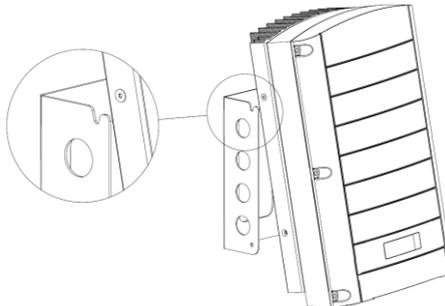
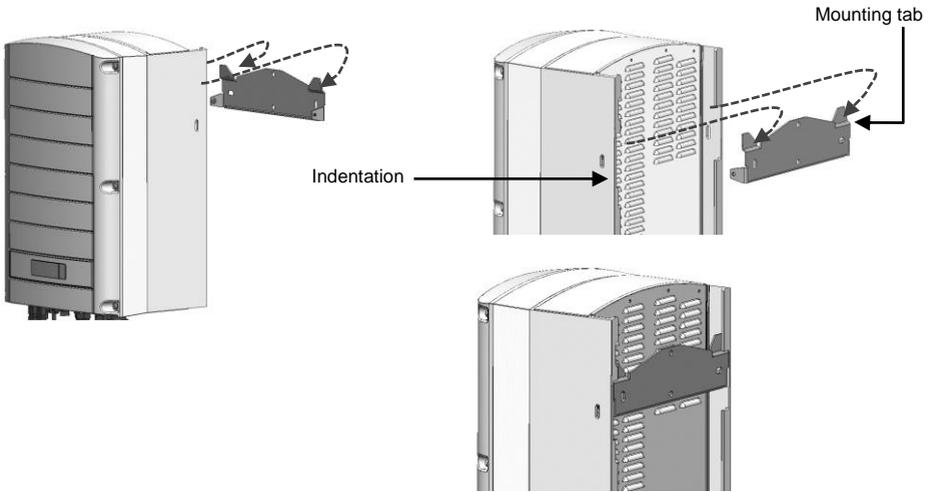

Figure 7: Hanging the inverter on the bracket – Type 1
Figure 8: Hanging the inverter on the bracket - Type 2
- For Type 2 – Ensure that the flat side of the bracket is at the bottom, as in Figure 8.
- 3** Hang the inverter on the bracket (Figure 7 and Figure 8): Lift the inverter from the sides, or hold it at the top and bottom of the inverter to lift the unit into place.